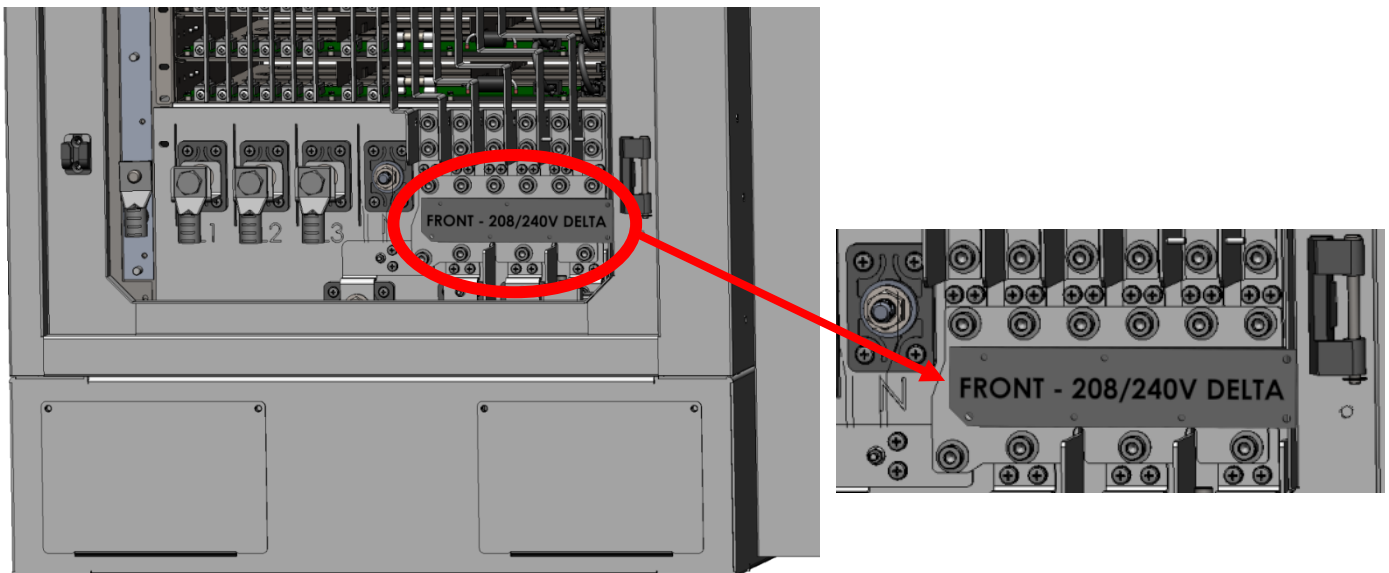

Figure 43 - FRONT – 480V WYE Configuration shown secured on Bus Bar
CAUTION! Configuration Bus Bar must be loaded on and anchored to Bus Bar with the “FRONT” etching or stamp facing out, as shown in Figure 43.
- a. Place selected configuration bus bar/plate on the bus bar with its "FRONT" etching or stamp facing out (such as the "FRONT – 480V WYE" example shown in Figure 43).
CAUTION! Configuration Bus Bar must be loaded and secured on Bus Bar with the "FRONT" etching or stamp facing out, as shown in Figure 43.